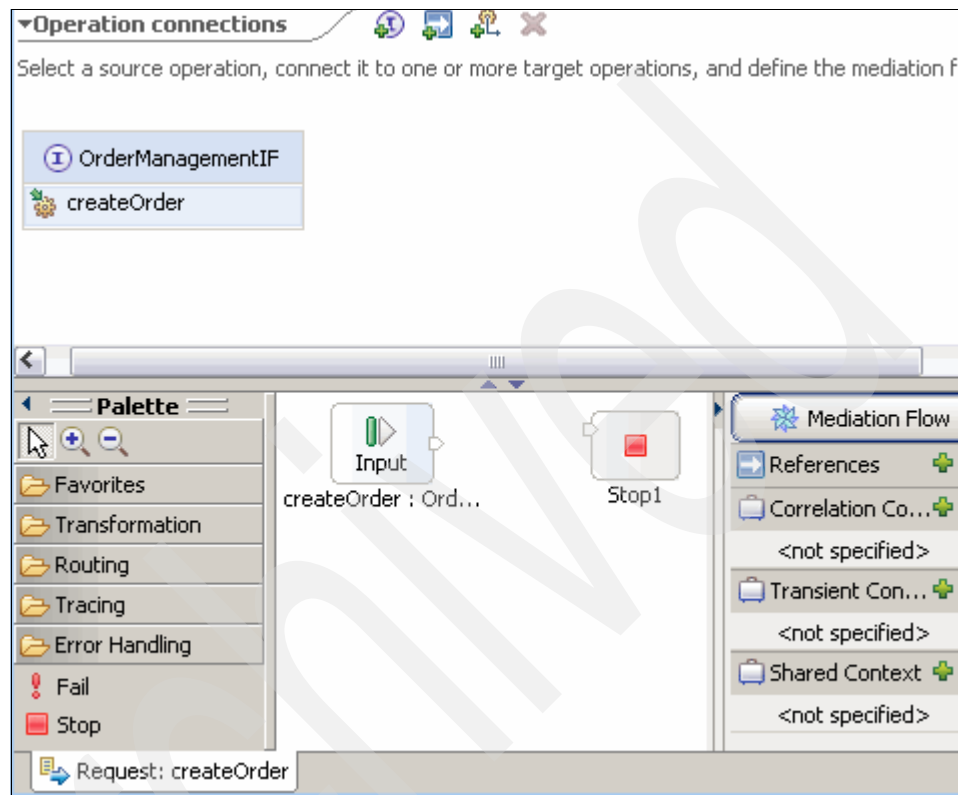

Figure 4-33 Dragging a Stop primitive to the mediation flow
- Using the Palette, drop a Stop primitive on the canvas, as shown in Figure 4-33. The Stop primitive ends the mediation without throwing any exception.